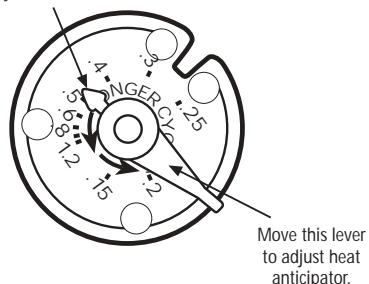

FIGURE 7 ANTICIPATOR ADJUSTMENT
3. Remove thermostat cover. Slip 7/32" wrench onto hex nut beneath bimetal. While holding temperature adjustment lever stationary, turn hex nut clockwise until mercury shifts to the right end of the tube (fig. 7).